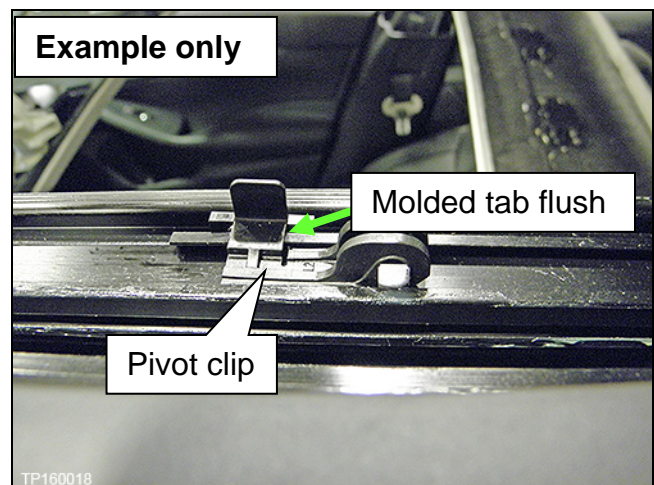

Figure 23
9. Confirm that the molded tabs are completely locked into the Moonroof frame, and are flush with Moonroof frame (Figure 23).
- Figure 23 shows driver's side pivot clip with wind deflector arm removed so that molded tab can be seen.